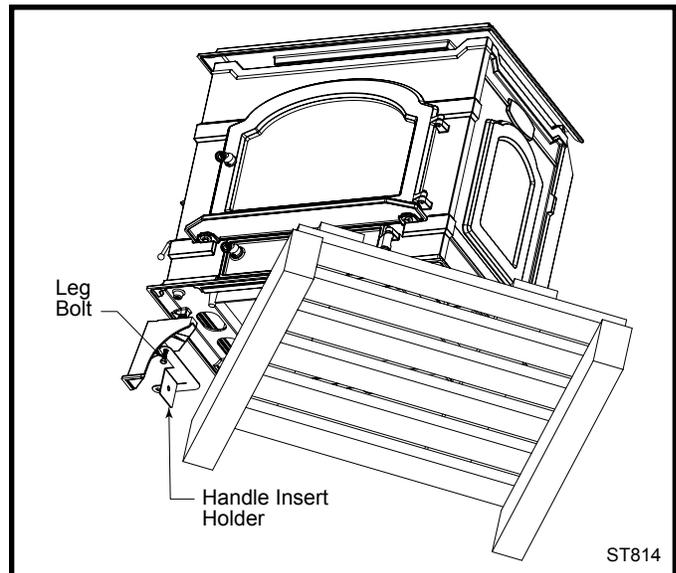

Fig. 20 Rotate stove on pallet to expose front left corner.
2. Rotate the stove counterclockwise until the front left corner overhangs the pallet and the leg-mounting hole is accessible. (Fig. 20)
3. Remove and discard the (4) 3/8-16 x 1/2" round head bolts that are in the leg holes on the bottom of the stove.
4. In the hardware bag, locate the four legs, the door handle insert holder, (on this leg only, the door handle insert holder is used along with a washer), (4) 3/8-16 x 1" leg bolts and four (4) washers.